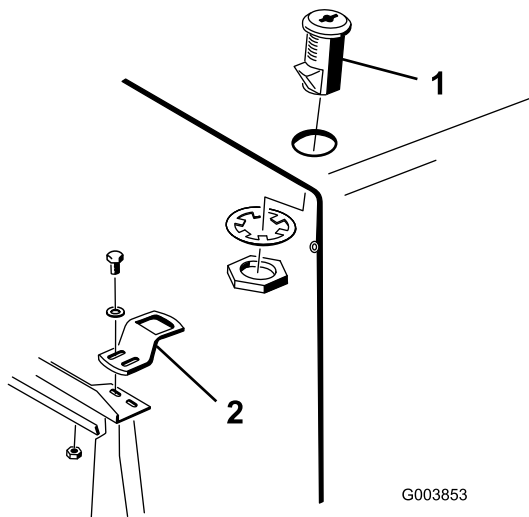

Figure 4
3. Mount the locking switch to the hood with a lock washer and nut. Position the switch with the latch toward the front of the machine (Figure 4).
4. Loosely mount the latch bracket to the radiator support with 2 bolts (1/4 x 3/4 inch), flat washers, and locknuts (Figure 4).